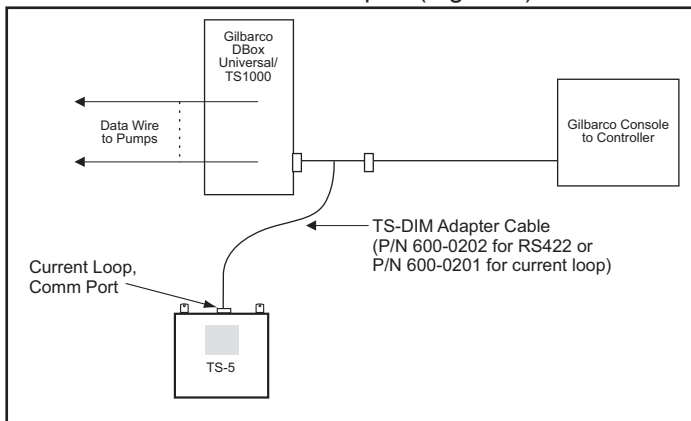

Figure 1: Connecting to Gilbarco D-Box Universal/TS1000
- If the Gilbarco system uses an RS422 style Universal D-Box, disconnect the Gilbarco console/controller from the D-Box and connect the Gilbarco style Dispenser Interface Module Cable (p/n 600-0202) to the Gilbarco D-Box. Plug the long end of the Dispenser Interface Module Cable (p/n 600-0202) into the TS-5 series RS422/232 communication port (Figure 1).